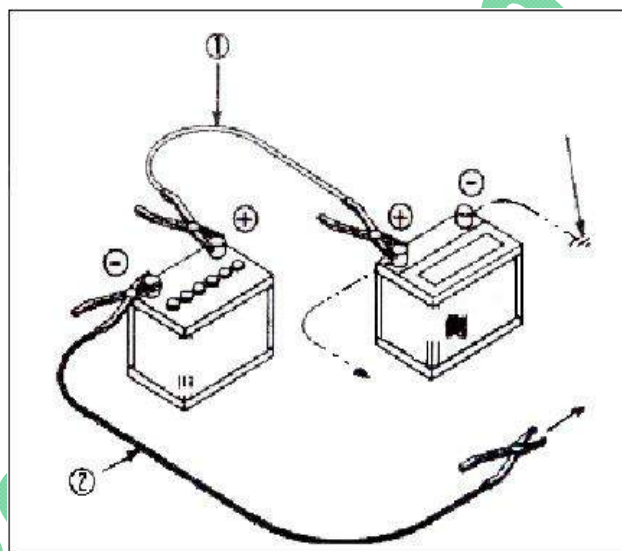

Fig 3-11
1. Using boost wire ① (Fig 3-11) connect the positive pole of the battery to the positive side of the discharged battery
2. Using boost wire ② (Fig 3-11) connect the negative side of auxiliary battery to the earth point of the upper platform, do not connect to the negative pole of the battery directly